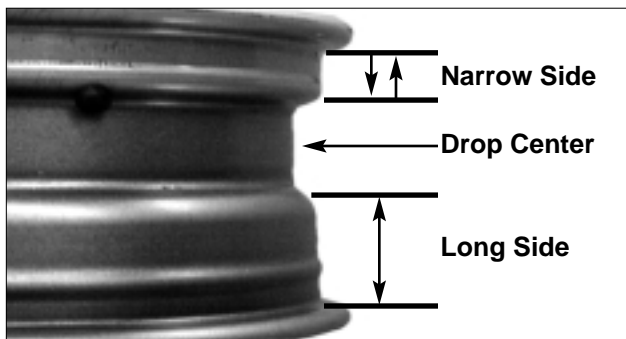

Figure 4 – Determining Mounting Side of Wheel
D. Always loosen the bead on the narrow side of the wheel's drop center first. See Figure 4 for more information on the drop center.
3. Turn wheel around and repeat loosening procedure on the other side of the wheel. This should be the long side of the drop center (see Figure 4).
- Determine the mounting side of the wheel. The mounting side is the narrow side of the drop center. (Tire removed in Figure 4 for clarity.)